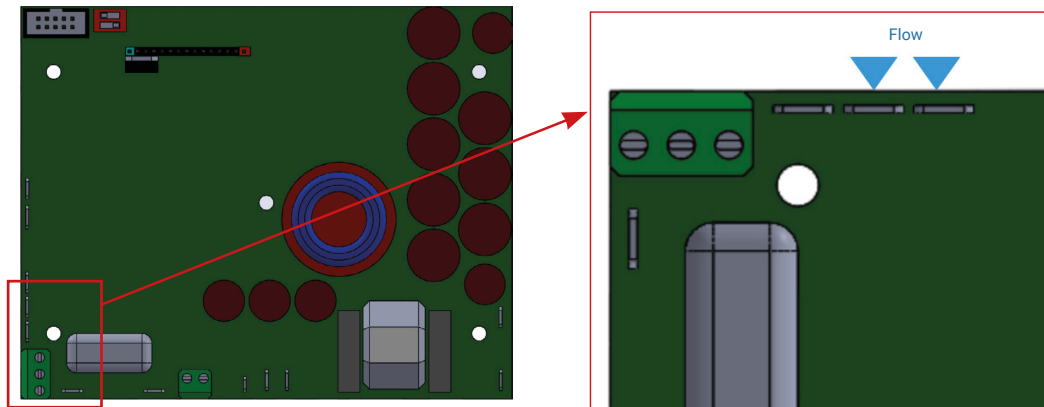

Figure 2
- Connect the sensor to the card as shown in Figure 2 below: